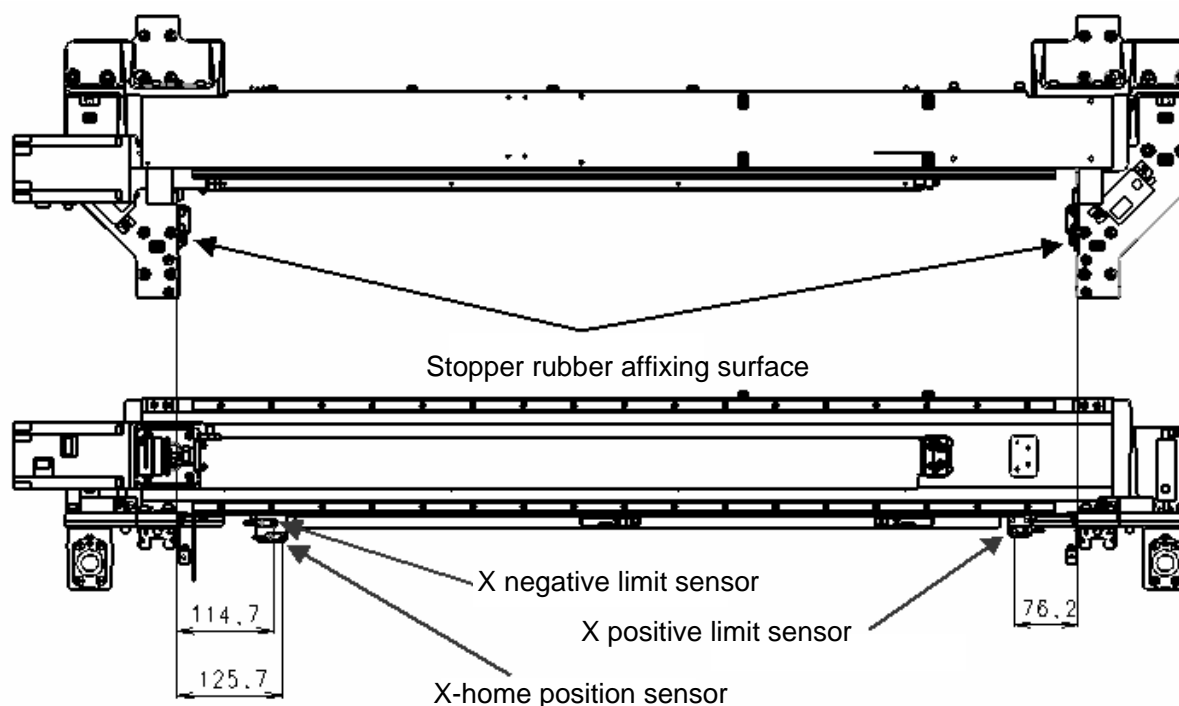

Figure 1-3-1-1 M and L Board Specifications (Examples of KE-3020V and VR)
- 1) Loosen the screw fixing the X-limit sensor bracket and make the adjustment so that the distances from the X-frame L and R are those shown in the figure below. After the adjustment has been completed, tighten the screw firmly. (See Figure 1-3-1-1 (M and L board specifications) and Figure 1-3-1-2 (XL board specifications).)